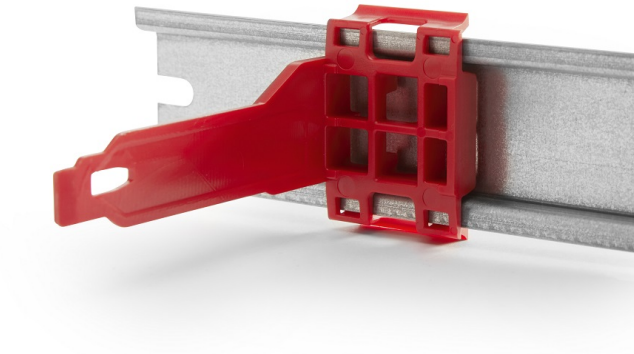

Figure 2: The mounting clip mounted on a DIN Rail.
1. Mount the mounting clip onto the DIN Rail by firmly snapping it into place, see Figure 2 on Page 10.